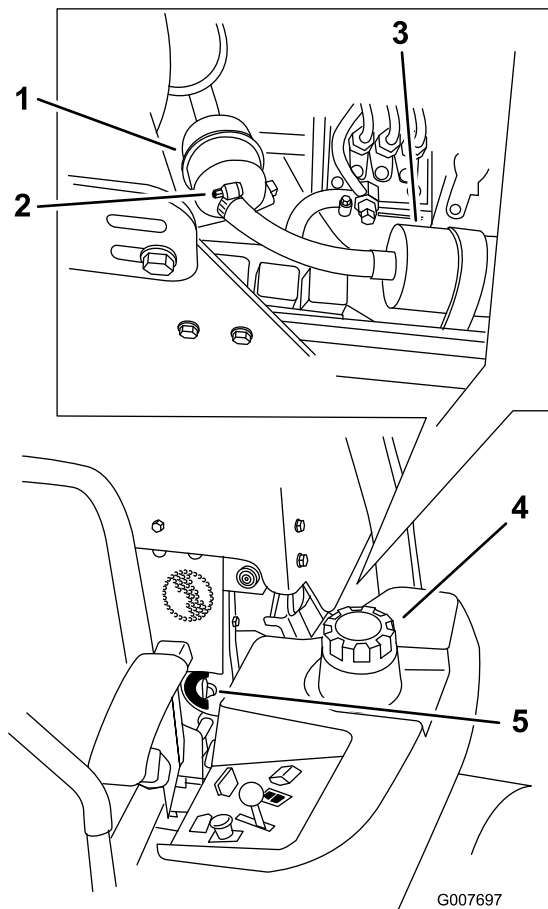

Figure 55
4. Close the fuel shut-off valve (Figure 55).
5. Loosen the 2 hose clamps and disconnect the fuel lines from the fuel filter (Figure 55).
6. Install a new filter. Connect the fuel lines to the fuel filter and install the hose clamps (Figure 55).